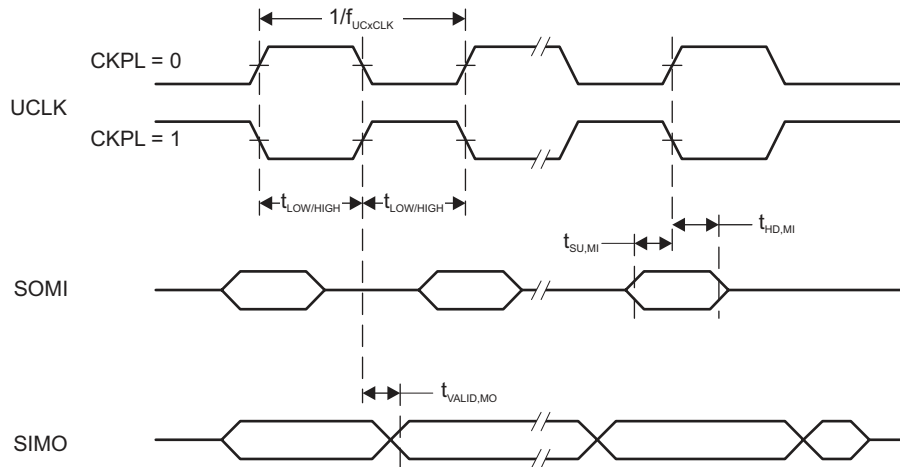
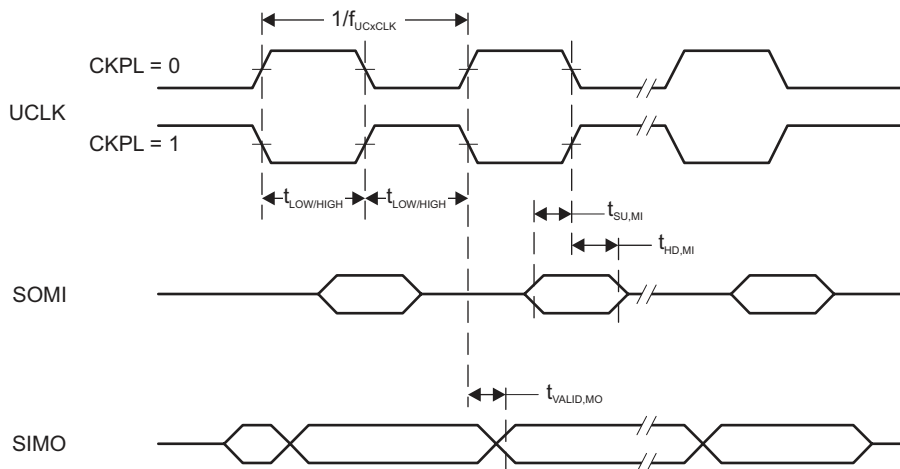

Figure 5-23. SPI Master Mode, CKPH = 0
Figure 5-24. SPI Master Mode, CKPH = 1
over recommended ranges of supply voltage and operating free-air temperature (unless otherwise noted)(1) (see Figure 5-23 and Figure 5-24)
- (2) Specifies the time to drive the next valid data to the SIMO output after the output changing UCLK clock edge. See the timing diagrams in Figure 5-23 and Figure 5-24.
- (3) Specifies how long data on the SIMO output is valid after the output changing UCLK clock edge. Negative values indicate that the data on the SIMO output can become invalid before the output changing clock edge observed on UCLK. See the timing diagrams in Figure 5-23 and Figure 5-24.